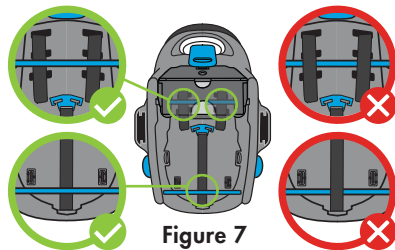

Figure 7
- Route Shoulder Harness Straps and Harness Adjuster Strap between Base Attachment Bars and bottom of Carrier, as shown in **Figure 7**.